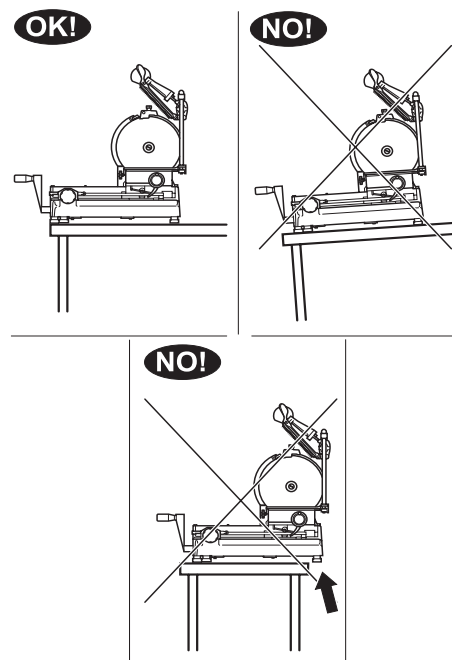

Figure 8-2
1. Select a location for the slicer that has a level, solid, nonskid surface that is nonflammable and is in a well-lit work area that is away from children and visitors (Figure 8-2).